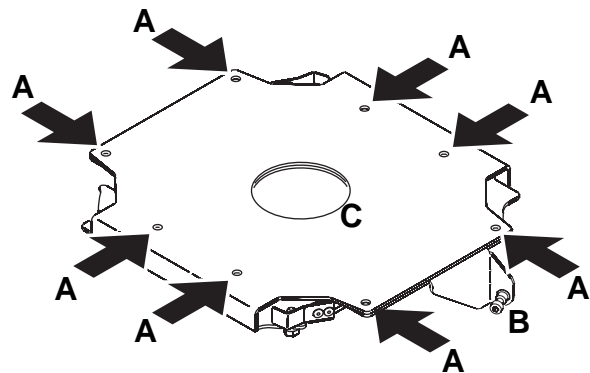

Figure 4: Quick-release bracket mounting points
When mounting a smartMAC in the bracket, turn it fully clockwise and ensure that the bayonet mounting pins are fully engaged in the base of the fixture. Tighten the safety lock screw (B in Figure 4) and double-check that the fixture is secure.
2. See Figure 4. Fasten the bracket securely to the mounting surface using eight fasteners in the 5.5 mm mounting holes A. Make sure that the bracket when fastened will hold at least 10 times the weight of the smartMAC.